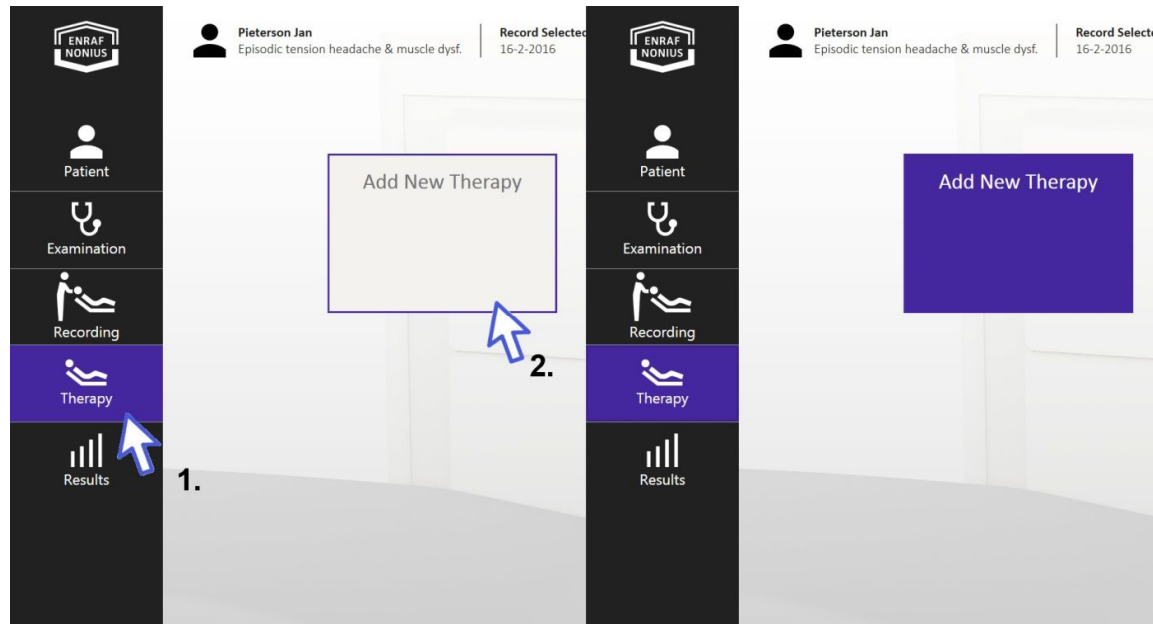

fig. 89
- Select "**Therapy**" in the main menu, then "**Add New Therapy**" (fig. 89, 1 and 2).